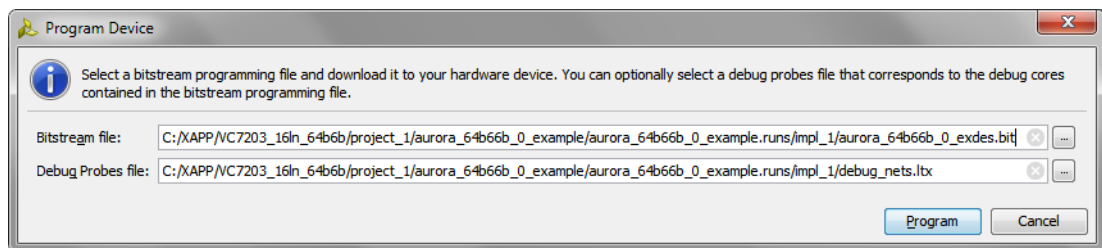

Figure 31: Programming the Aurora 64B/66B core on Board B
1. Right-click the device and select **Program Device** and then choose the Bitstream file and Debug Probes file from the implemented project as shown in Figure 31 and click **Program**.